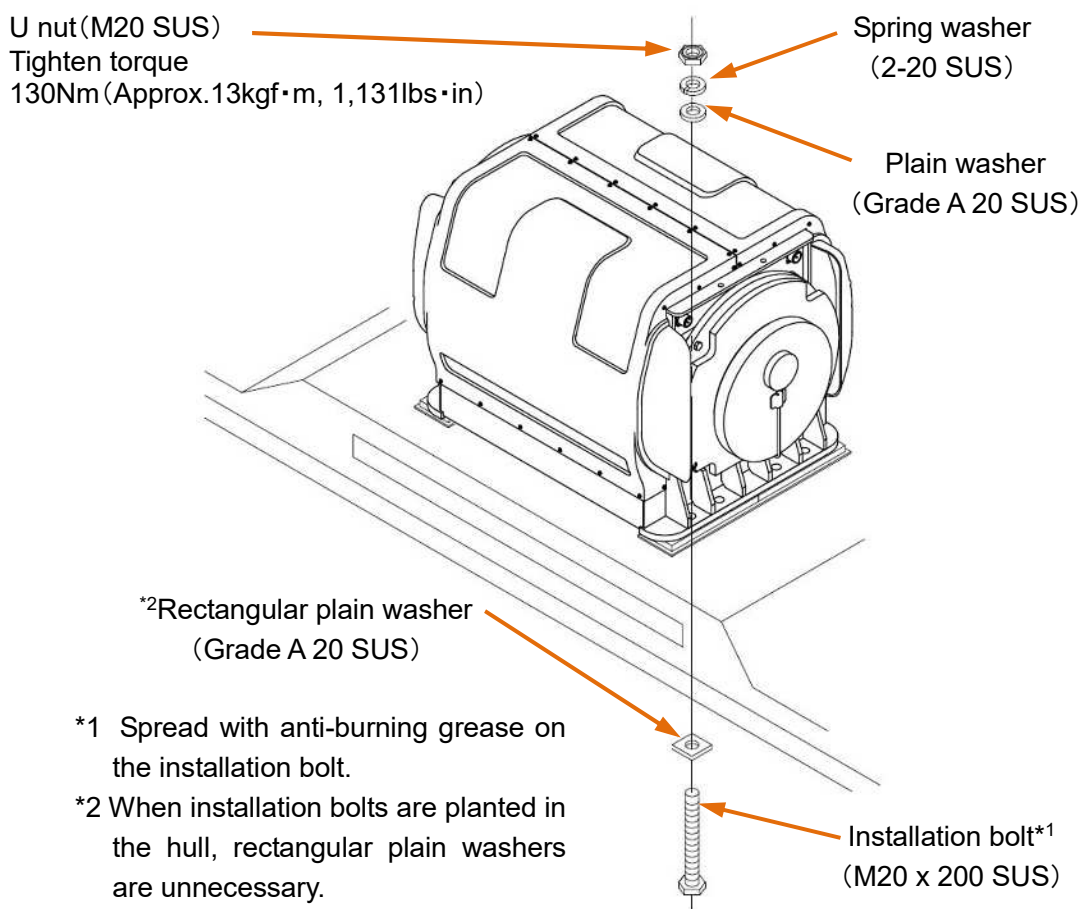

Figure 4-6 Installation of the **ARG** unit
- ⑩ Assemble parts as shown in the Figure 4-6.